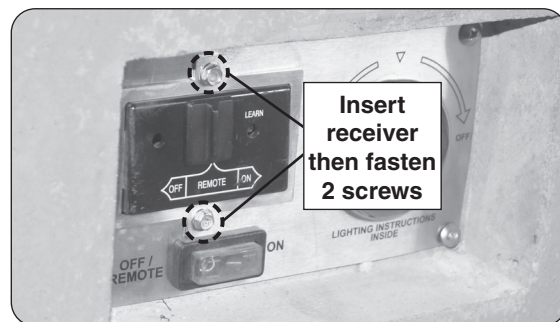

Fig. 33-4 Reinstall remote receiver assembly
9. Reinstall the remote receiver bracket assembly (see Fig. 33-4).